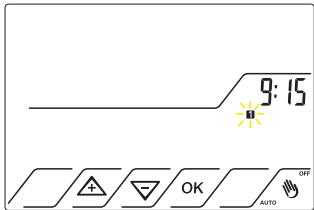

Fig.12
3.7 Press OK to confirm. The day value  (Monday) flashes. Fig.12